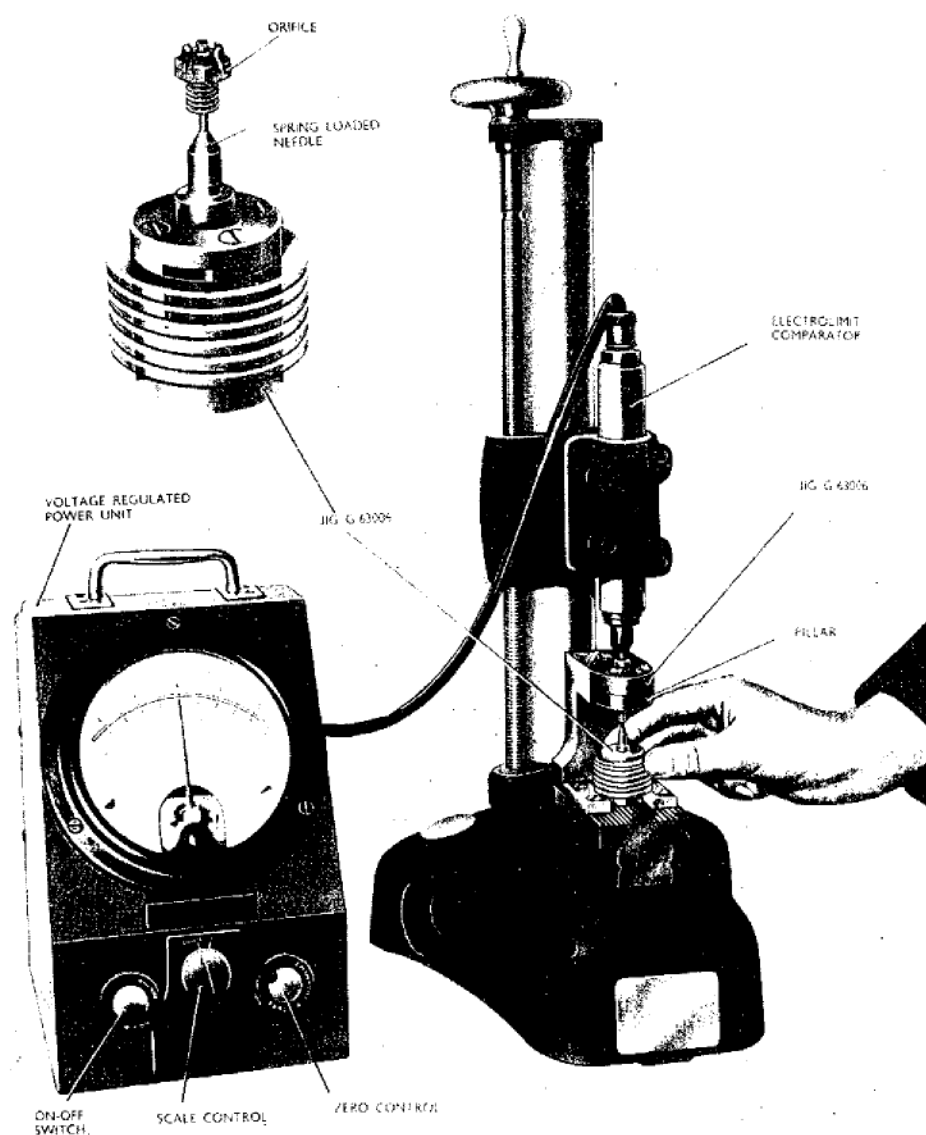

Fig. 2. Checking the orifice face
39. Check the orifice face for flatness of the lands in relationship to each other by using an electrolimit comparator (*fig. 2*) or some similar instrument. To make the test, move the orifice in four directions at right angles to each other for two or three times. The maximum permissible error is ± 0.000002 in.